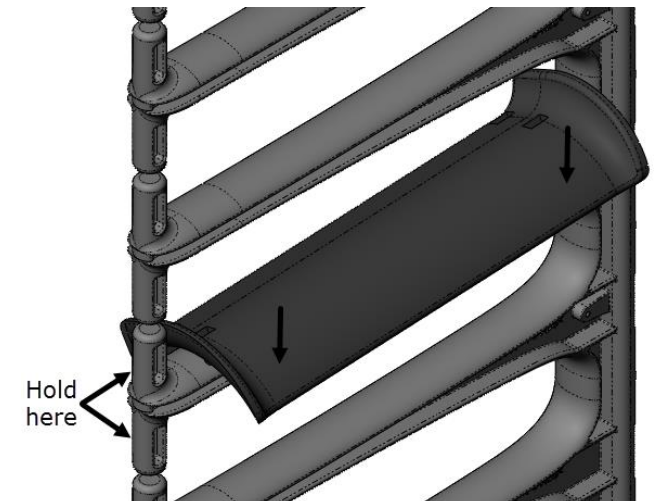

Fig. 3
3. While holding the end of the finger with one hand push down on the rear of the bend radius until the snap engages. Repeat to engage the second snap on the front side of the bend radius. See Fig. 3.